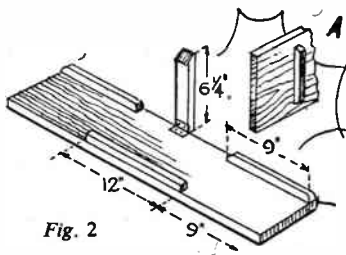
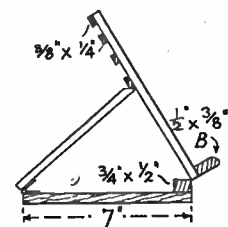
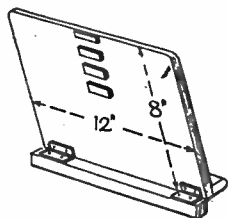

Fig. 2
Fig. 3
Fig. 4
in the diagram Fig. 2. In Fig. 3 the rack is shown erected, while Fig. 4 gives a detail of the rack, its hinges and support fillets. Both these diagrams show the ledge (B) which is to hold the book or paper in proper place. Glue and screws will make a good joint here, and, indeed, to all the fillets and ledges.
All sharp corners and edges should be glasspapered off and made smooth. The book-rest itself may be  $\frac{3}{4}$ in. thick with rounded corners at top and the two hinges fitted and screwed on as shown in Figs. 3 and 4. The small fillets at the
Note how the top of the strut is shaped as in Fig. 2 to go in between the fillets. Note, also, that when the strut is folded down it lies level with the top of the front hinging fillet.